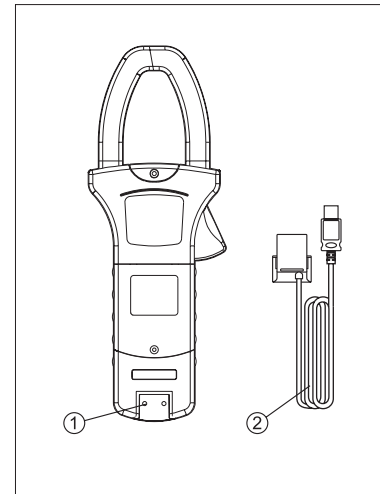

Figure 2
⑪	V1 Input Terminal (First phase measurement)
⑫	COM Input Terminal
⑬	CLEAR button (maximum and minimum)
⑭	Σ button (Sum)
⑮	SAVE button (data store button)
⑯	USB button
⑰	LIGHT button (auto display backlight button)
⑱	HOLD button
⑲	LCD Display
⑳	Testing Leads (Red, Black, Blue and Yellow)
B. The Meter Back and Bottom Structure (see figure2)